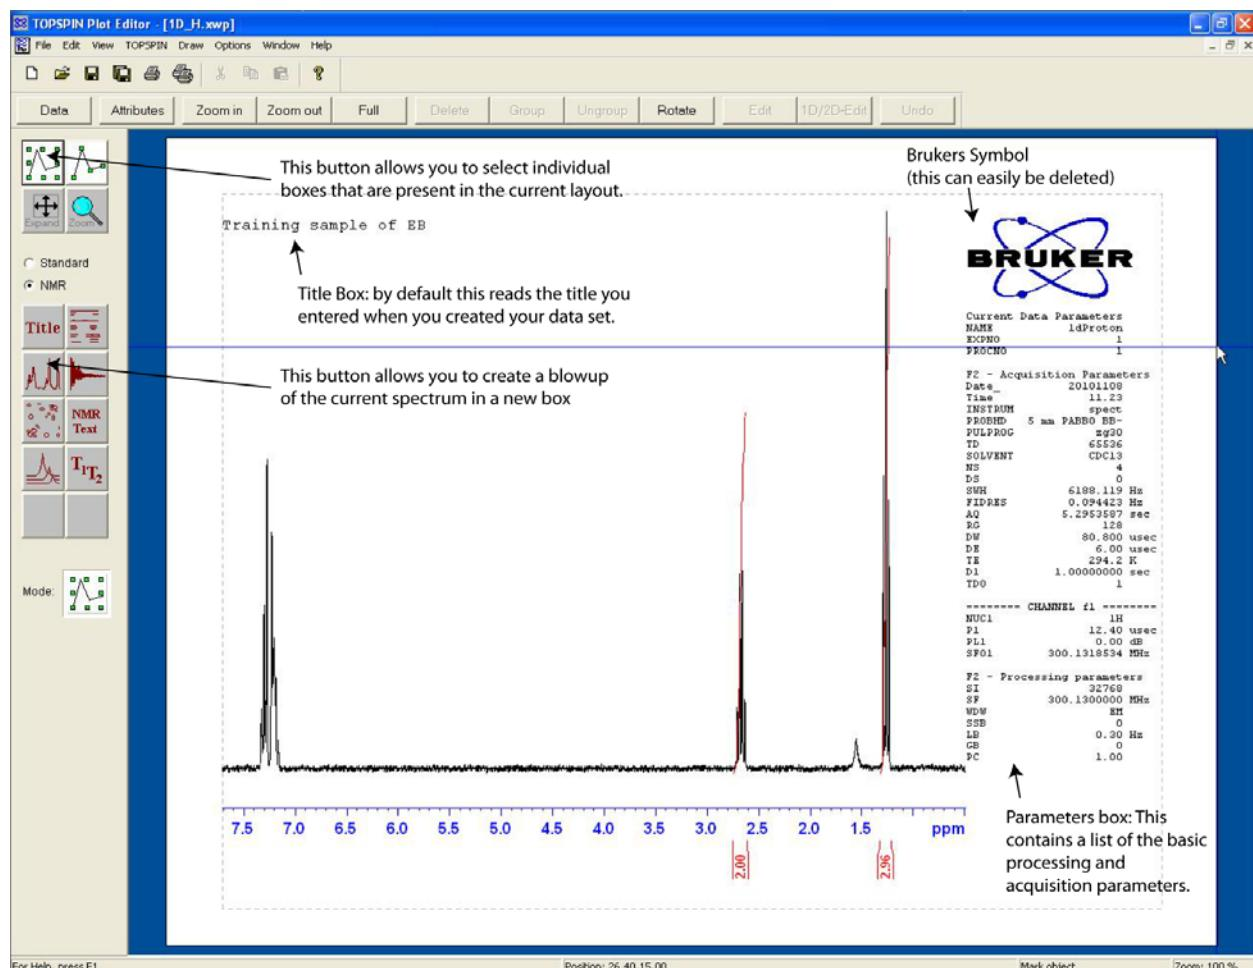

Figure 27 The default plot editor layout
(23) Now that your spectrum has been acquired and processed it is time to prepare the spectrum for printing. Topspin uses a tool known as the plot editor to do this. The plot editor can be opened by left clicking on “Plot Editor” in the NMR step-by-step. Figure 27 shows the default layout that will open with the plot editor. This manual will provide very simple instructions for using the plot editor; however plot editor is a very powerful tool and users may wish to spend some additional time becoming more familiar with its use. The default layout contains several different boxes (shown below) including: the parameters box, title box, Bruker symbol box, and the main spectrum box.